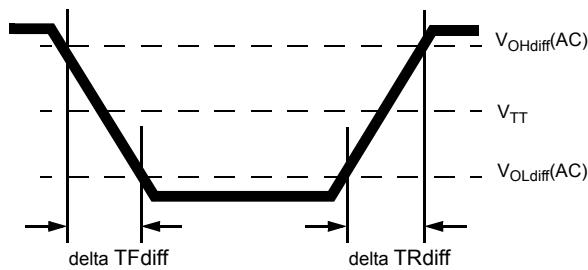

Figure 18. Differential Output Slew Rate Definition
With the reference load for timing measurements, output slew rate for falling and rising edges is defined and measured between VOLdiff(AC) and VOHdiff(AC) for differential signals as shown in Table 29 and Figure 18.